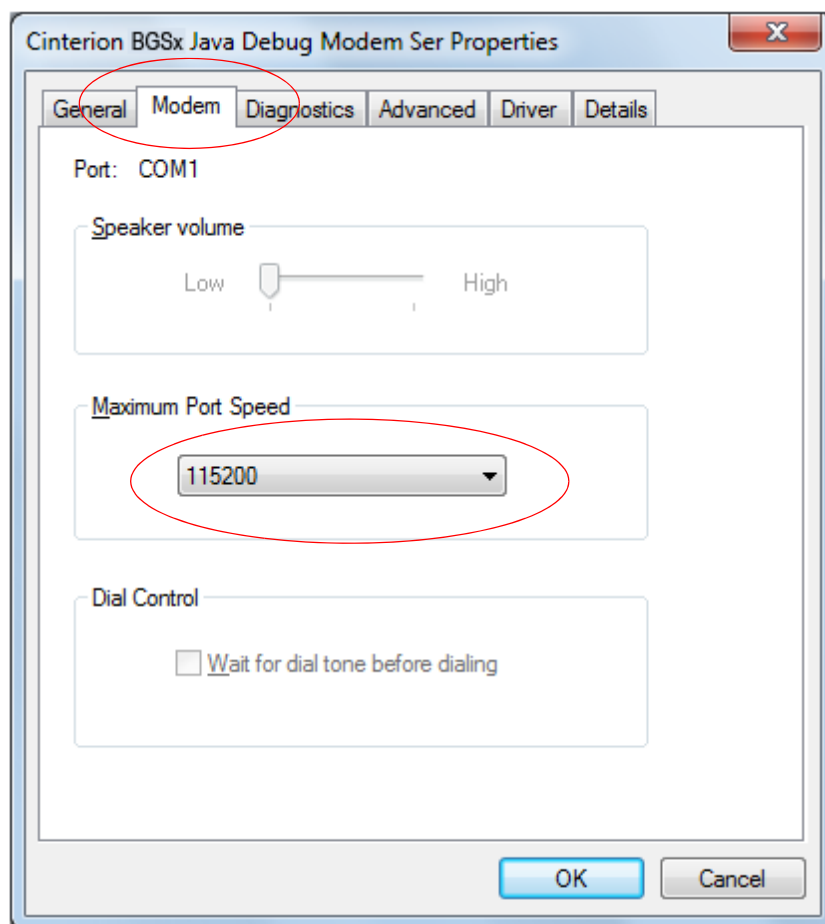

Figure 19: Specify maximum port speed for modem device
- First, the baud rate of the modem device "Cinterion BGSx Java Debug Modem Ser" has to be set to the required maximum port speed. The modem properties are available via the Windows device manager or the phone and modem options (see Figure 19).